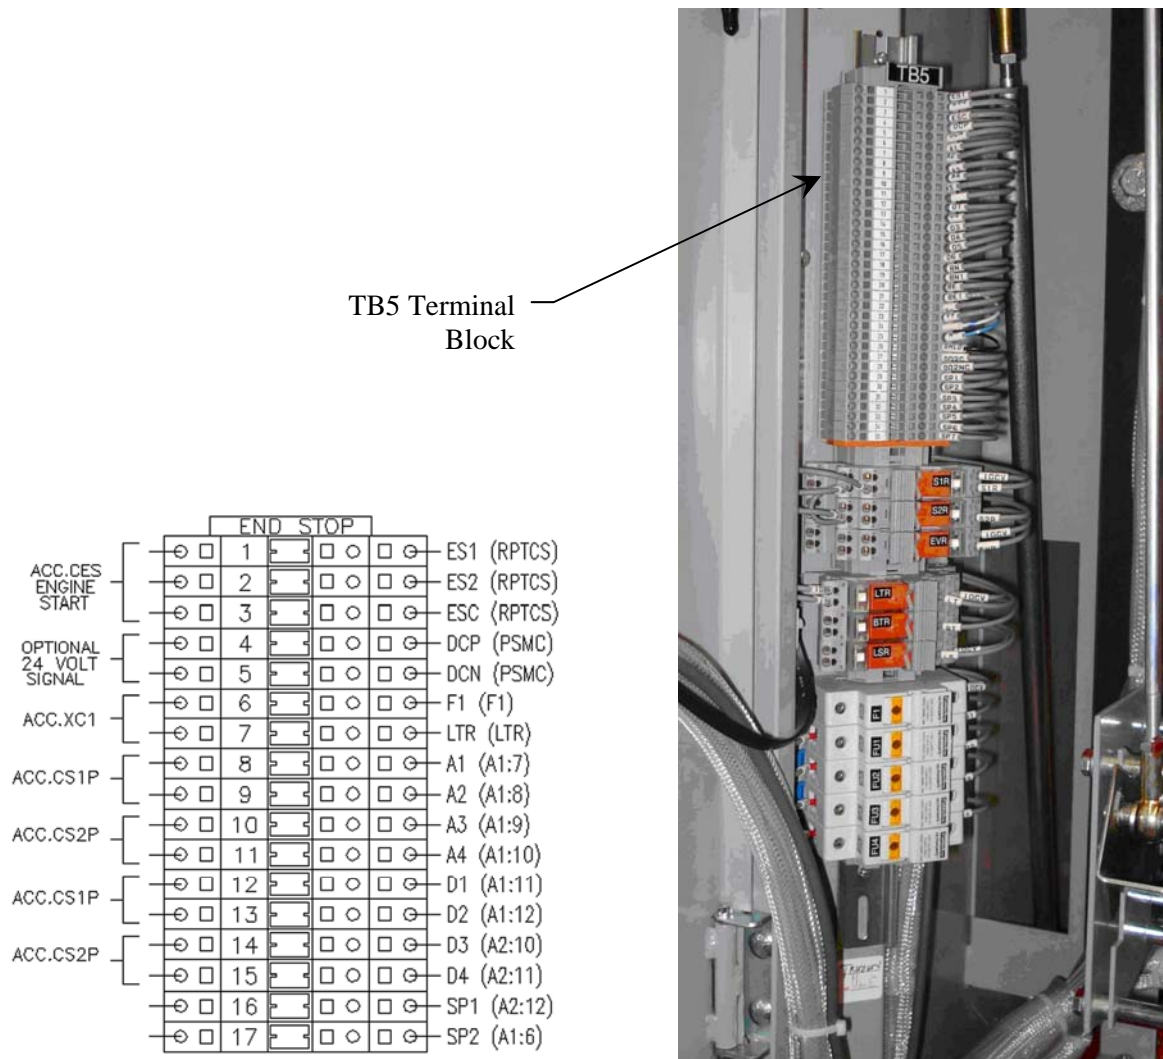

Figure 13: Locate the TB5 Terminal Block
1. Locate the customer control terminal block TB5 (Figure 13) located behind the upper door.